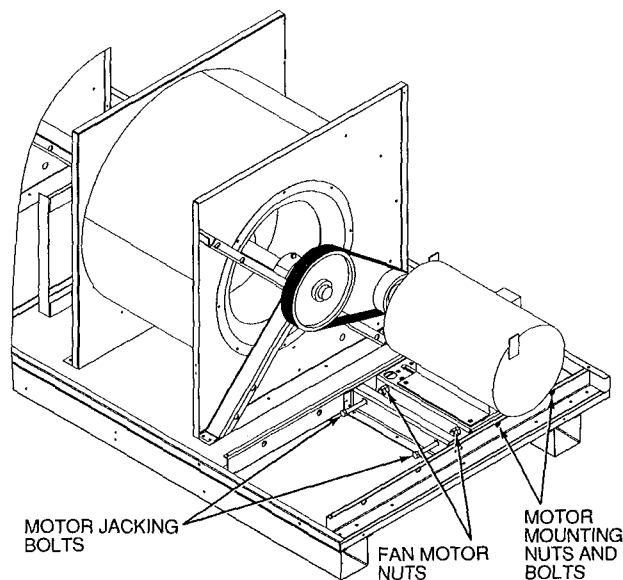

Fig. 44 — Belt Tension Adjustment
3. Loosen fan motor nuts. See Fig. 44.